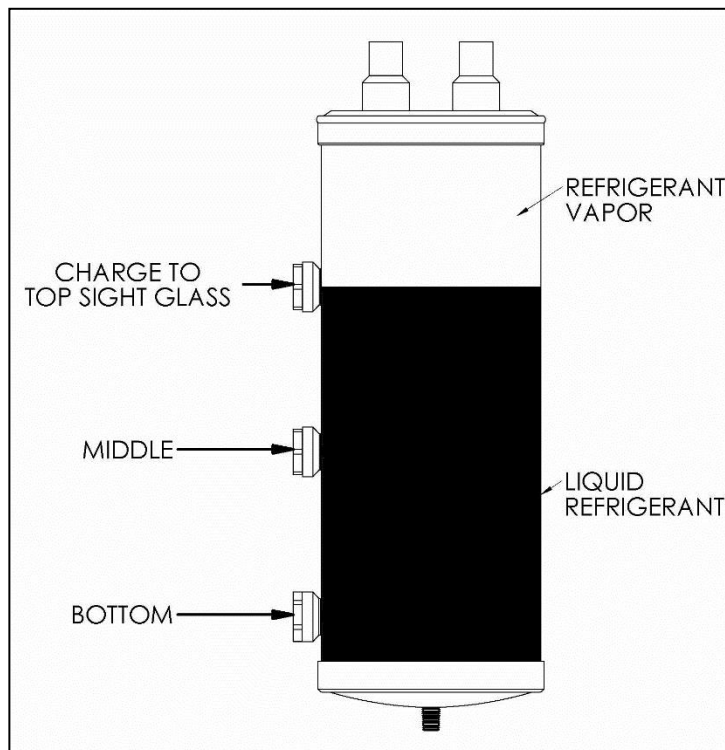

Figure 30. Charging to the Top Sight Glass
8. After verifying that the system is operating at saturation in heating mode, **and with the system still operating in heating mode**, slowly open the LP valve on the manifold gage set, and **slowly** add refrigerant to the system until **the refrigerant liquid level is at, but not above, the top ACC sight glass**, as shown in Figure 30. At no time should the refrigerant liquid level be above the top ACC sight glass.